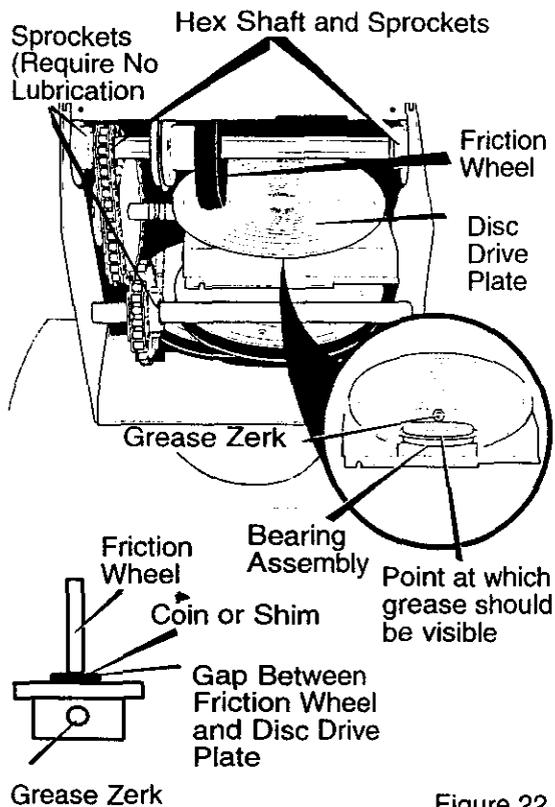

Figure 22
4. Turn **disc drive plate** clockwise by hand until **grease zerk** is clearly visible at front center. See Figure 22.
1. **Hex Shaft and Sprockets** – Hex shaft and sprockets require no lubrication. All bearings and bushings are lifetime lubricated and require no maintenance. See Figure 22.